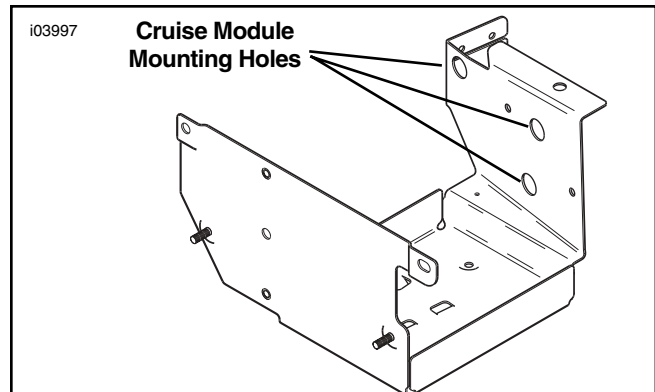

Figure 1. Cruise Module Mounting Holes
4. See Figure 1. In battery box, identify the location of the three mounting holes (on left side of panel) for mounting the cruise control module.